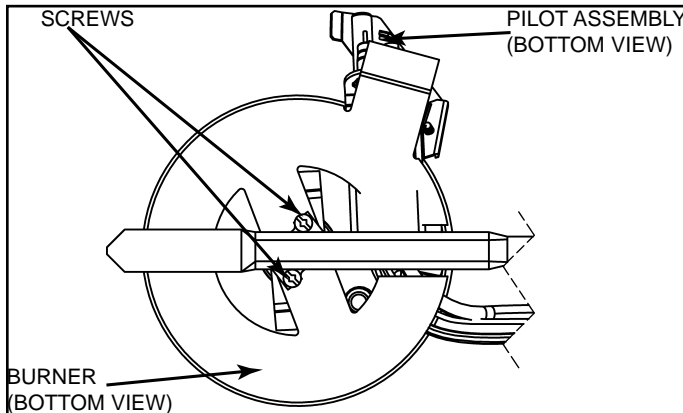

FIGURE 24
1. Take off the burner by removing the two (2) screws located underneath the burner.
2. Check the burner to see if it is dirty or clogged. The burner may be cleaned with soap and hot water (Figure 24). Important: DO NOT remove the orifice.
2. Remove the burner to access the pilot/thermopile assembly. Remove and keep the screws securing the burner to the manifold (Figure 24). Important: DO NOT remove the orifice.
8. Using the pilot screw removed earlier, attach the new pilot/thermopile assembly. Reattach the burner to the manifold using the screws removed earlier. Note: Make sure the burner scoop is oriented to the pilot side of the manifold tube (Figure 24).